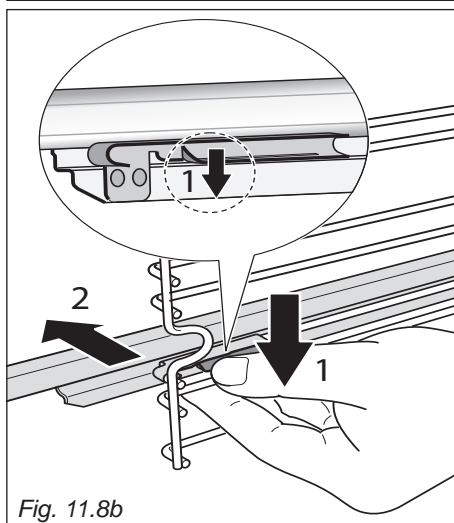

Fig. 11.8b
- Find the safety locks. These are the tabs that clip over the wire of the side rack (arrow "1" in fig. 11.8b).
- Pull the safety locks away from the wire to release the wire (arrow "2" in fig. 11.8b).